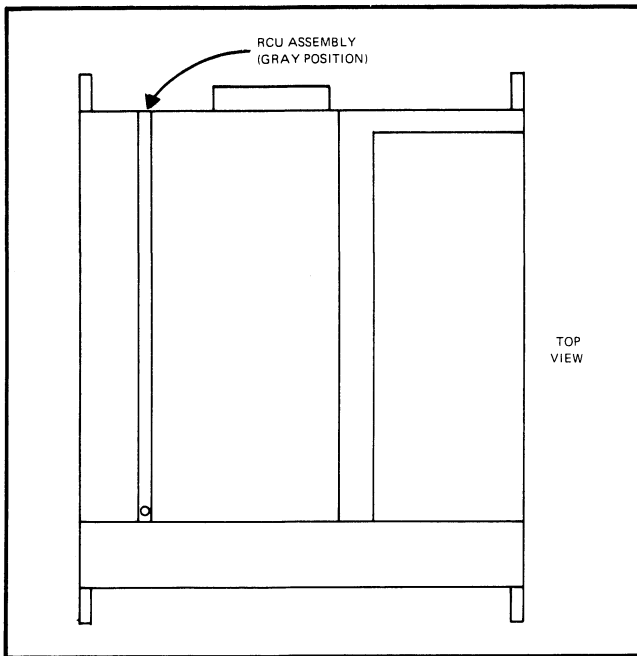

Figure 601-2. RCU Mounting Location
601-6. The RCU (pcb assembly number 5200A-4080) mounts in an assigned position within the 5200A as shown in Figure 601-2. Install the RCU as follows:
3. Install the RCU assembly in the gray (eighth) position and slide fully forward to engage the printed circuit board connector. Refer to Figure 601-2.